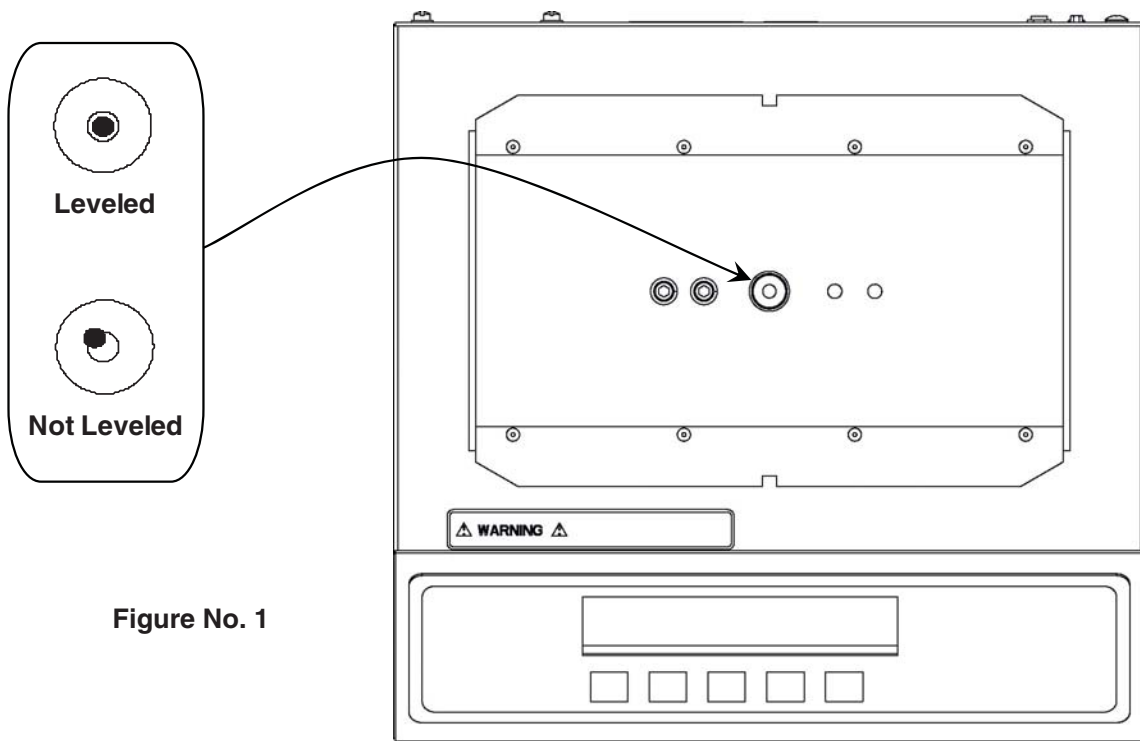
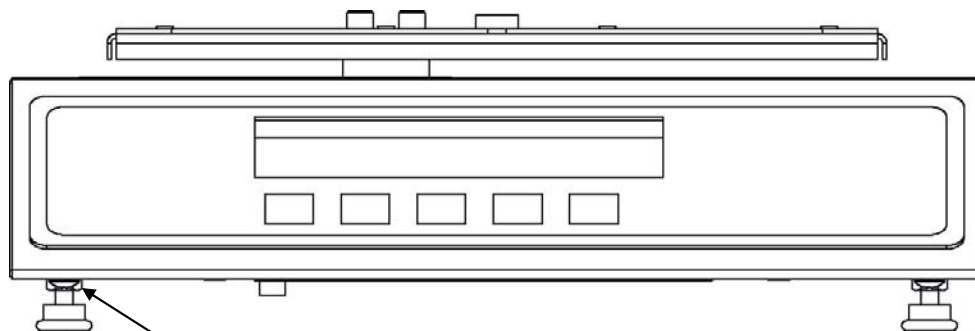

Figure No. 1
Figure No. 2
Check to make certain the scale is level. The level indicator is located in the center of the weighbridge under the baby tray. Remove the baby tray and observe the level bubble (see Figure No. 1). If the scale is not level (the bubble will not be centered), loosen the locking nut on all four (4) mounting feet (see Figure No. 2) and adjust them as required to center the bubble and attain a level scale. Once a level condition has been obtained, lock the mounting feet in place by tightening the adjustment nuts against the bottom of the scale.